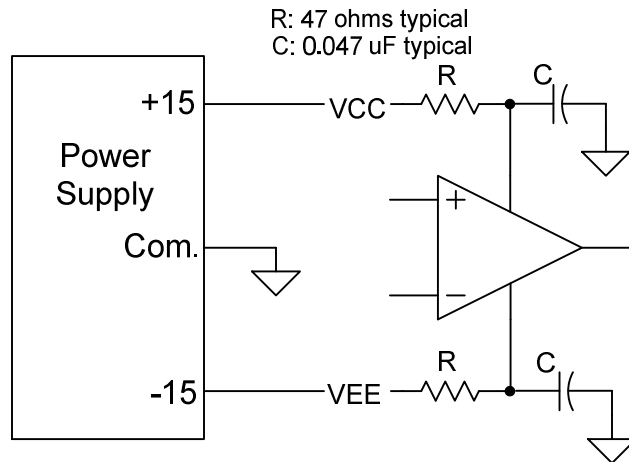

Figure 1: RC decoupling network for op-amp circuits
- All op-amps should have the RC decoupling networks discussed in the notes on their power supply leads as shown in Figure 1. These networks should be as physically close to the part as practical. Typical good values to use are 47 to 100 Ohms for the resistors and 0.01 to 0.1 microfarads for the capacitors. The path to ground should be as short as practical. Failure to use this network on a proto board makes the op-amp susceptible to oscillation.
Use the general circuit in Figure 1 for the entire lab and also for subsequent labs. For clarity the power supply circuits are not shown in the rest of the lab figures. You will need the data sheet for the LM741 op-amp. This can be found in numerous places on the Internet. For all circuits in this lab use +15 volts for VCC and -15 volts for VEE.